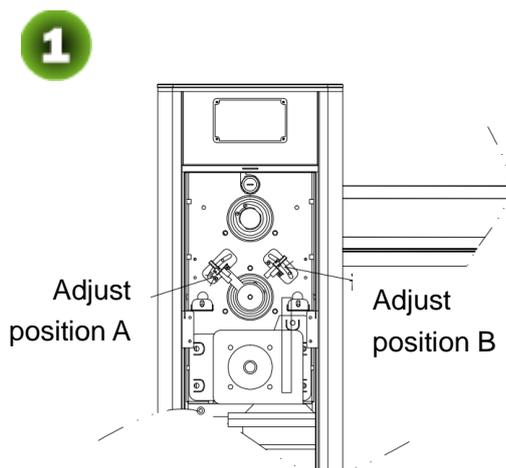

Figure 3-2A Adjusting Levelness Verticality of the Boom
- 1) If the boom fails to fall into a level position, adjust position A; if the boom fails to be lifted upright, adjust position B. Properly adjust the levelness of the falling boom and the verticality of the lifted boom. See Figure 3-2A.